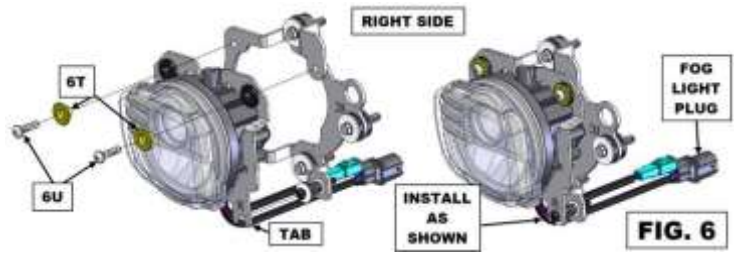

FIG. 6
12. TAKE THE RIGHT LIGHT ASSEMBLY AND INSTALL IT IN THE RIGHT LIGHT MOUNT AS SHOWN IN FIG. 6. NOTE: THE TAB SHOULD GO BETWEEN THE WASHER AND THE SCREW HEAD AS SHOWN IN THE RIGHT VIEW OF FIG. 6.
13. USING TWO M5 X 20MM LONG SCREW (6U) AND TWO GOLD FLANGE COLLARS (6T) ASSEMBLE TOGETHER AS SHOWN IN FIG. 6.